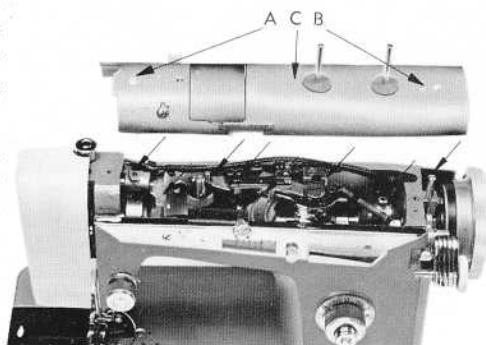

Fig. 56
To oil the top parts of your machine, remove the two screws (A & B) located at each end of the top cover (C). Remove top cover and oil the parts located at the arrow points as in Fig. 56.